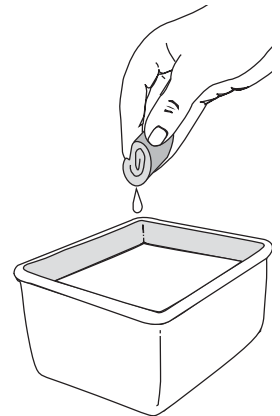

Fig. 34
3. Wash the filter in detergent and water (Fig. 34). Rinse the filter thoroughly. Squeeze out excess water. Allow it to dry completely.